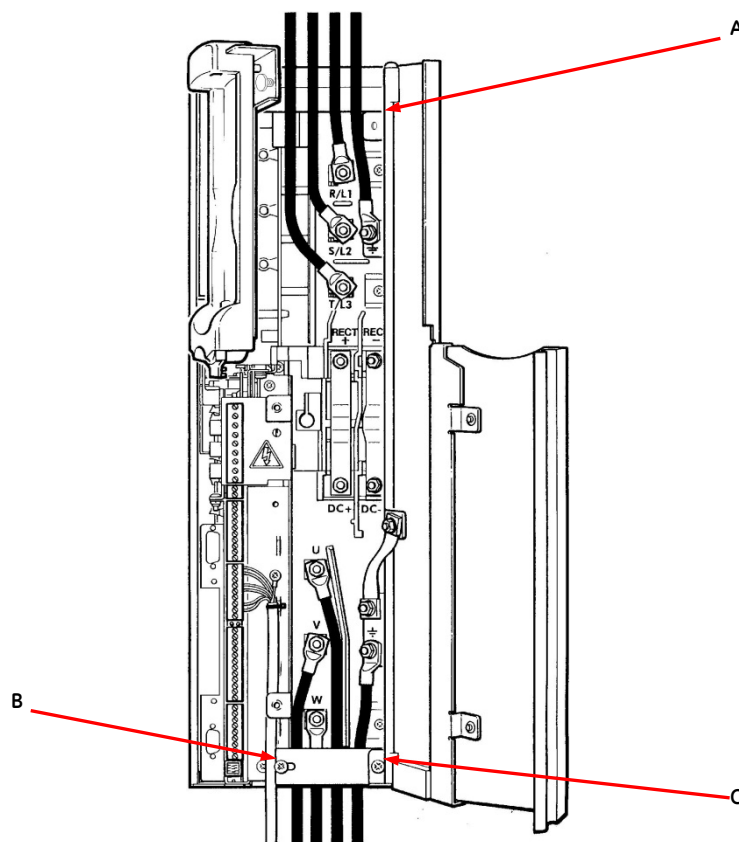
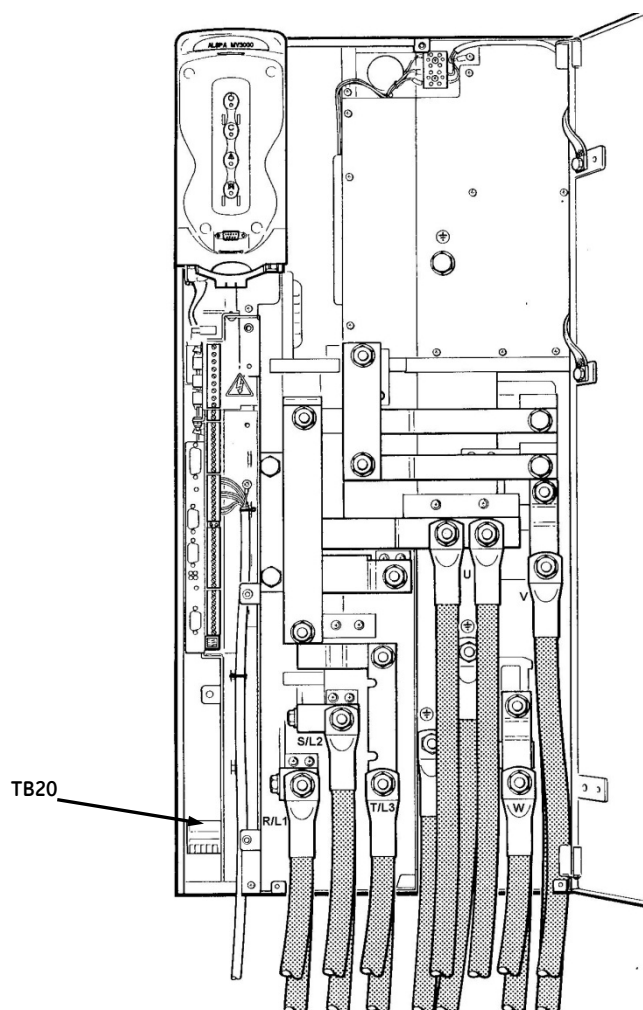

Figure 3-9. – Power Connections for Frame Sizes 3 & 4
Figure 3-10. – Power Connections for Frame Size 6
The location of electrical connectors is shown in Figure 3-6 (frame sizes 3 and 4), Figure 3-9 (frame size 6) and Figure 3-10 (frame size 7). All units have two doors, for accessing control and power connections.
Frame sizes 3 and 4 have a similar connector layout (Figure 3-9). The means of connecting supply and motor cables is also similar, so the procedure and illustration are given for frame size 3 only. The connection of control cables is the same for all frame sizes.
- i) For frame size 3 models fitted with a cable access plate (Figure 3-9), fit the plate and secure using bolt B. Tighten screw C.
The power connector layout for frame size 6 is shown in Figure 3-10.
- a) Refer to Figure 3-10 and connect the AC supply cables to terminals R/L1, S/L2 and T/L3 on the drive.
- b) Figure 3-10 Power connections for frame size 6, showing parallel cabling
- a) Referring to Figure 3-10, connect the motor supply cables to terminals U, V and W on the drive.
- a) Referring to Figure 3-10, connect the AC supply cables to terminals R/L1, S/L2 and T/L3 on the drive. Note that the diagram shows parallel connections.